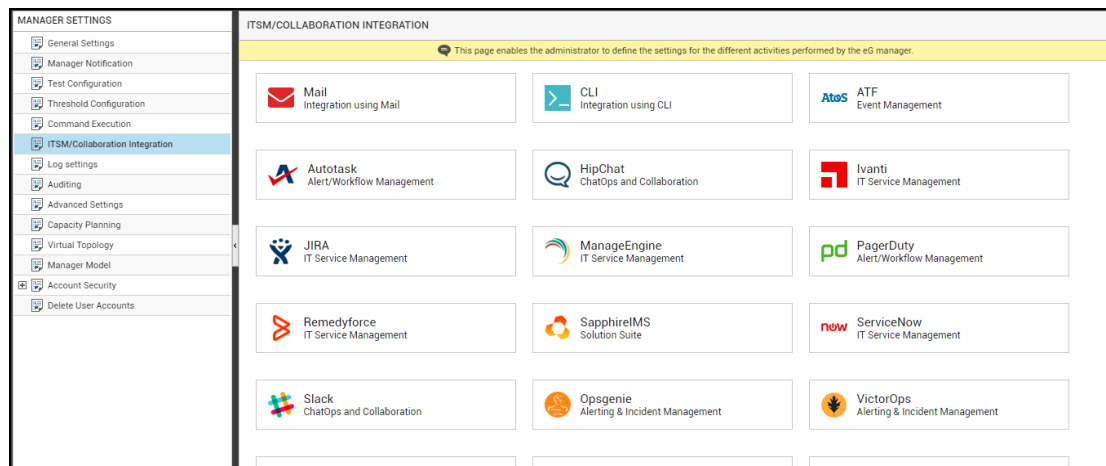

Figure 5.1: Viewing the ITSM/Collaboration tool options
3. Figure 5.1 will then appear. From the **MANAGER SETTINGS** tree in the left panel of Figure 5.1, select the **ITSM/Collaboration Integration** node. The third-party ITSM/Collaboration tools that eG Enterprise can integrate with will be listed in the right panel.
4. Now, click on the **ManageEngine** option in the right panel (see Figure 5.1). A **ManageEngine** section will now appear in the right panel (see Figure 5.2).